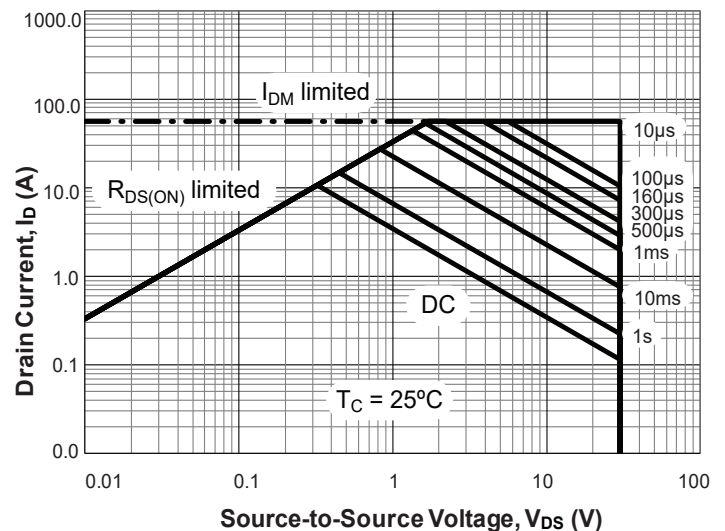

Figure 26. Safe Operating Area (SOA) curves for Sink power switch
Referring to the SOA curve in Figure 26, the maximum power allowed for 2ms (DC) is 50W ( $2.5A \times 20V$  or  $5A \times 10V$ ). The AOZ1380DI power switch is robust enough to drive a large output capacitance with load in a reasonable soft start time.